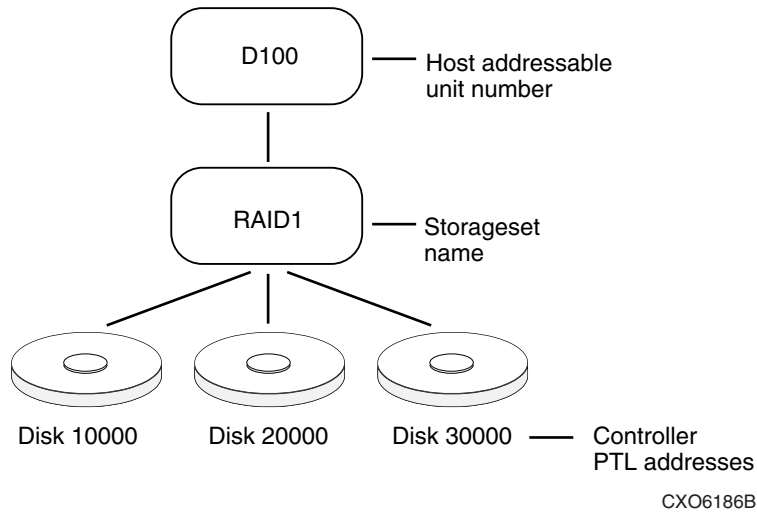

Figure 20: Mapping a unit to physical disk drives
The HSG80 controller has six SCSI device ports, each of which connects to a SCSI bus. In dual-controller subsystems, these device buses are shared between the two controllers. (The *StorageWorks* Command Console calls the device ports “channels.”) The standard BA370 enclosure provides a maximum of four SCSI target identifications (ID) for each device port. If more target IDs are needed, expansion enclosures can be added to the subsystem. For an example of how units are mapped to physical disk drives, see Figure 20.